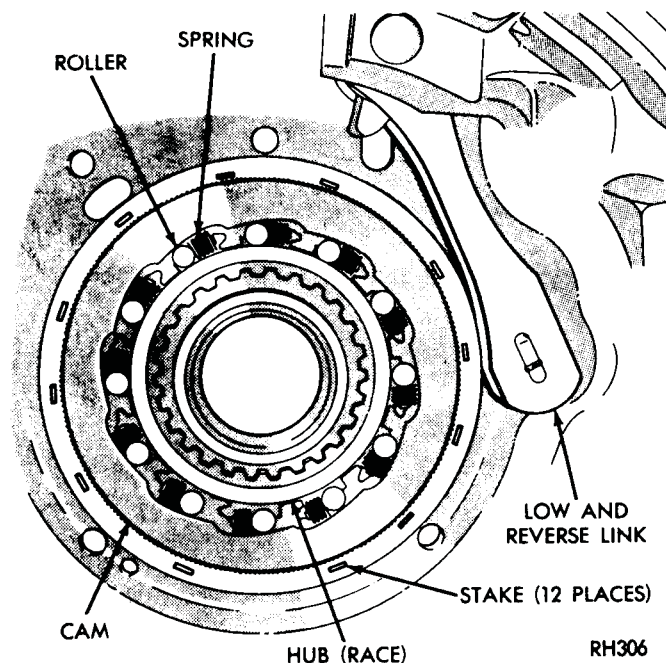
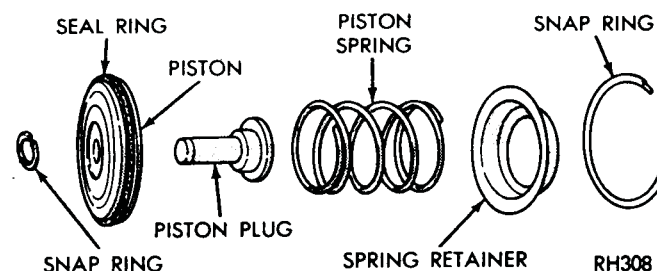

Fig. 42—Overrunning Clutch, Low-Reverse Band Link
Fig. 44—Low-Reverse Servo
(7) Remove cam installing tool. Remove pilot studs, install bolts and tighten to 150 in. lbs. (17 N·m). Stake the case around cam in 12 places with a blunt chisel (Fig. 42).
- (1) Remove snap ring from piston and remove the piston plug and cushion spring (Fig. 44).
(1) With transmission case in an upright position, insert clutch hub inside the cam. Install overrunning clutch rollers and springs as shown in Figure 42.
(1) Carefully work servo piston assembly into the case with a twisting motion. Place spring retainer, and snap ring over the piston (Fig. 44).
(2) Compress low-reverse servo piston spring by using engine valve spring compressor Tool C-3422A, then install snap ring.
(3) Position rear band in the case, install short strut, then connect long link and anchor to the band. Screw in band adjuster just enough to hold strut in place. Install low-reverse drum. Be sure long link and anchor assembly is installed as shown in Figure 42, to provide running clearance for the low-reverse drum.